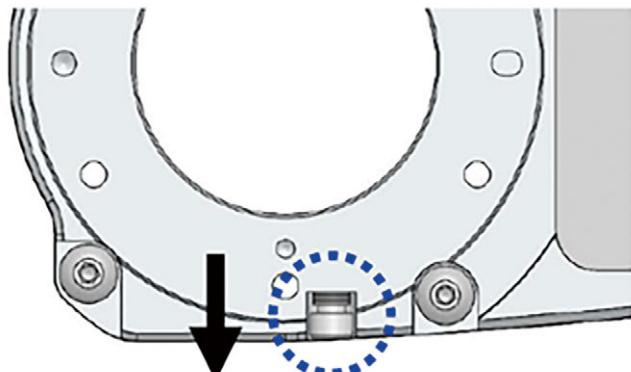

Figure 8.3-13 R-axis Stopper Bolt Removed
- 6) Have the emergency stop conducted and take the stopper bolt off (Figure 8.3-13). With the stopper bolt taken off, release the emergency stop and click “OK” in the confirmation window.